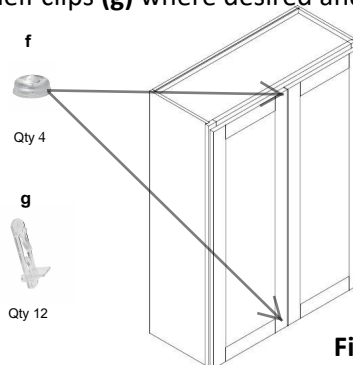

Figure 7
5. **Place the "L" brackets (a)** into the corner of the face frame and the side panels at the top and bottom of the cabinet. Then fasten the screws (b) to them as shown in (Figure 6). Install round buttons (f) where the doors come in contact with the frame. (Figure 7) Use shelf clips (g) where desired and insert shelves (E).